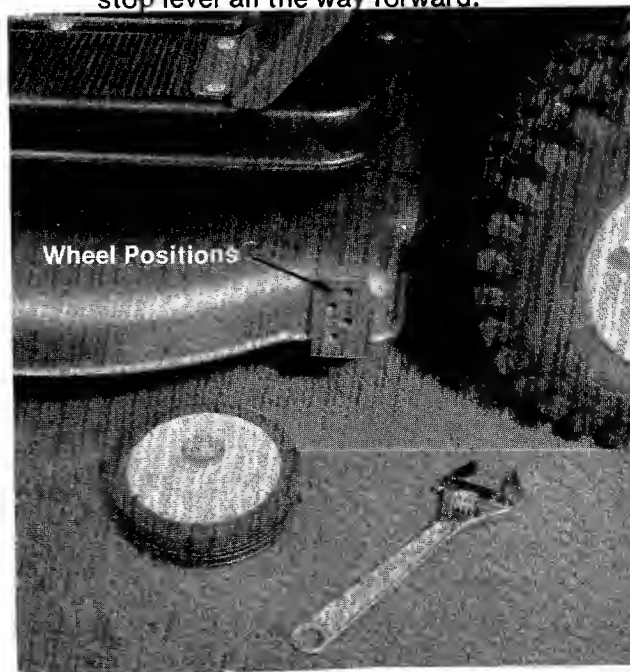

Figure 6.
1. Remove the two deck wheels by unscrewing the axle bolts. (See figure 6.)